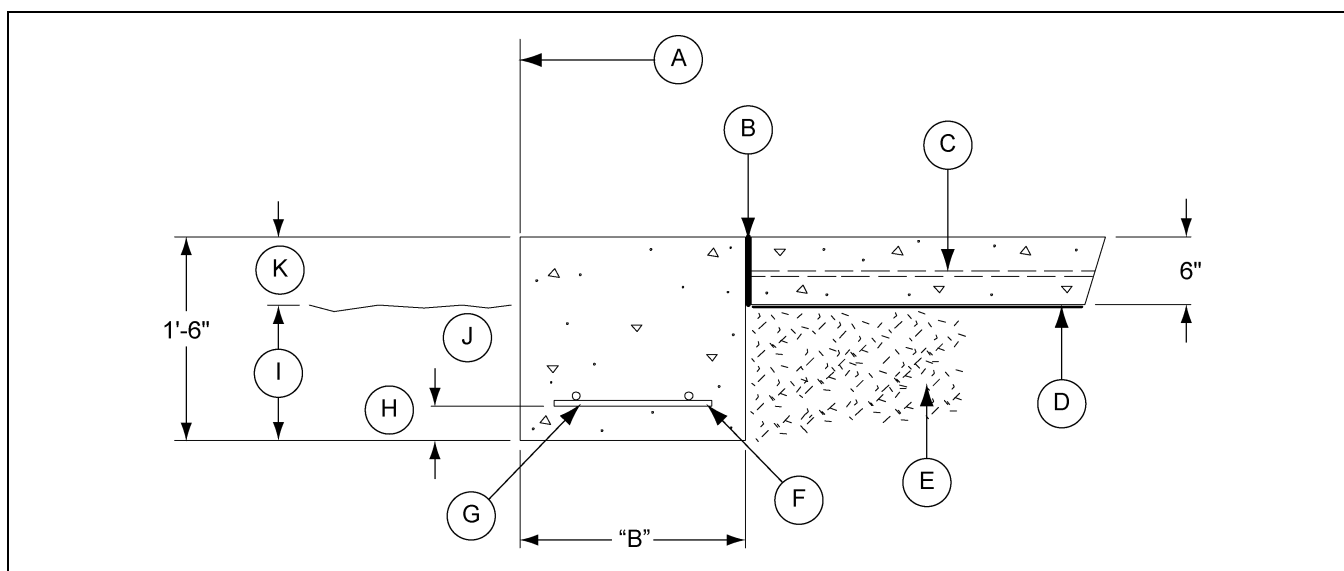

Figure 4H Frost Free Foundation
6. All material used for backfill inside the ring wall should be clean, well graded, crushed rock or a sand and gravel mixture. Backfill should be placed in 6" lifts, 95% compaction. (See Figure 4H.)